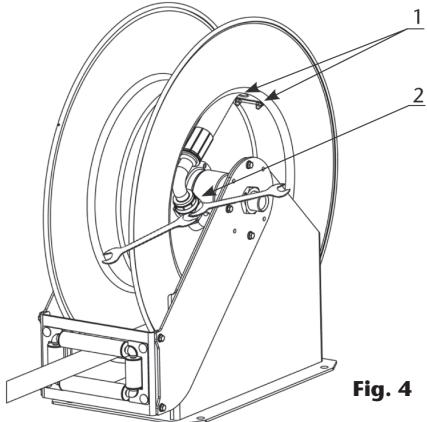

Fig. 4
2. Remove the U-bolt by loosening its nuts (1) and disconnect the hose from the swivel (2) by using two wrenches (fig. 4).
4. Connect the new hose to the swivel by using two wrenches. Place the U-bolt in such a way that it firmly holds the hose against the spool, and pull the hose in order to unlock the ratchet (fig. 4).
- 1.** Disconnect the hoses of the inlet shaft (1) and the swivel joint (2) (fig. 7). On the swivel, use two wrenches (fig. 4) in order to avoid any shaft damage.
- 2.** Loosen the set screw in the nut (3) and remove said nut.